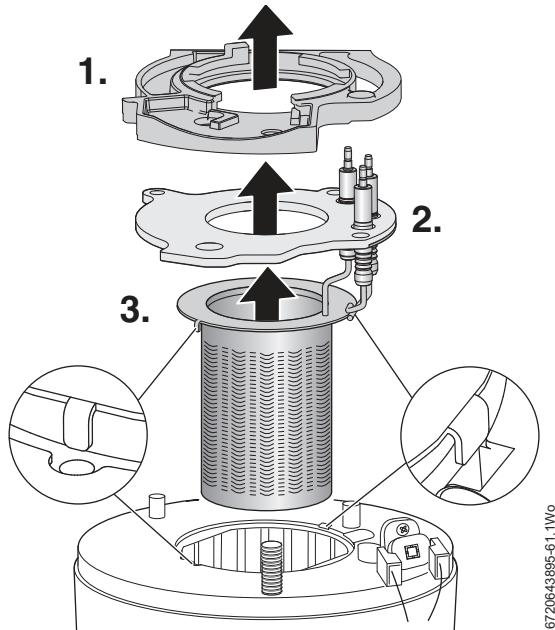

Fig. 64 Burner removal
Refer to figure 64
- Re-assemble ensuring that the lower baffle (2) and the top baffle (1) are refitted correctly.
- Refer to figure 64 when re-fitting the burner to ensure that it fits centrally within the heat exchanger and location tabs are situated in location holes.